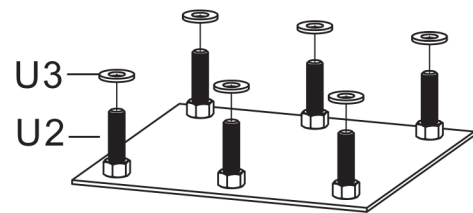

FIGURE 1A
- Slide a 18mm Thick Washer (U3) over each of the J-Bolts(U2) as shown in FIGURE 1A.